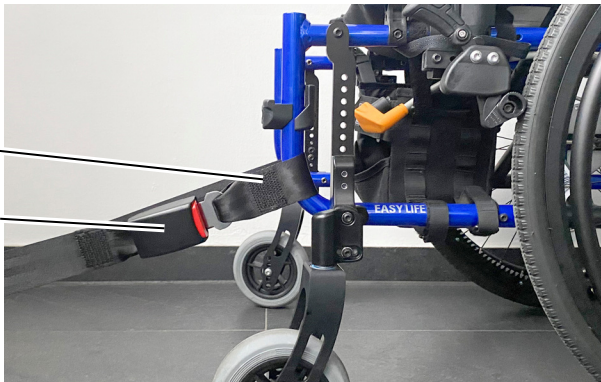

Figure 15: Fastening to the Attachment Points Specified by the Wheelchair Manufacturer
- ⇒ Adjust both magnets, such that they are as close to the belt locks as possible (see Figure 15).
Attach the belt loops or hooks to the attachment points specified by the wheelchair manufacturer, if there are no AMF-Bruns power knot adapters fitted to the wheelchair (see Figure 15, page 45).